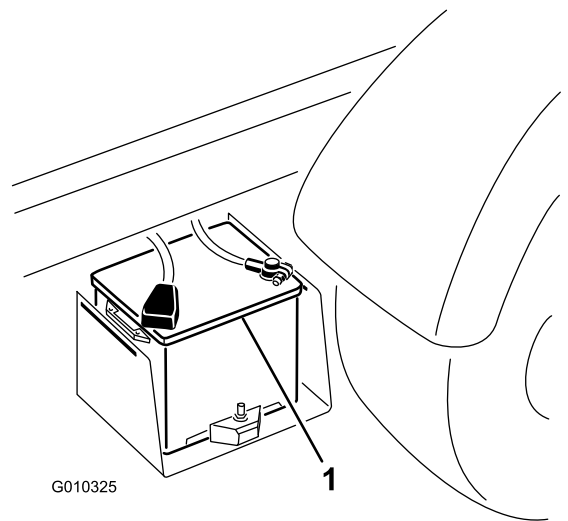

Figure 43
2. Connect a jumper cable between the positive posts of the 2 batteries (Figure 43).